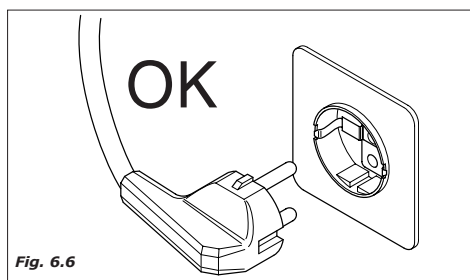

Fig. 6.6
- The distributor is equipped with a power supply cable of H05VV-F 3x1 mm2, with SCHUKO plug (Fig.6.6).